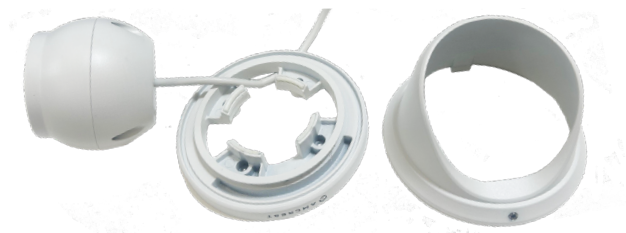

Fig. 11
16. This will disassemble the camera from its case (Fig. 11).